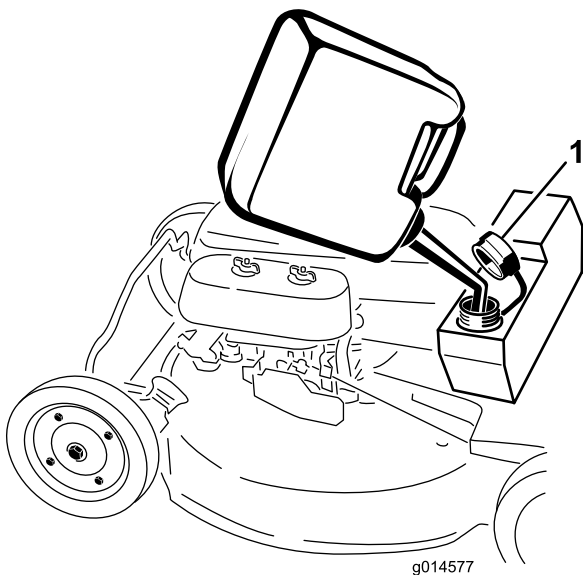

Figure 15
1. Clean around the fuel tank cap (Figure 15).